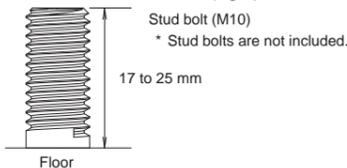

Fig. 5
- Mount the stud bolts (M10) to the mounting holes on the floor of the mount-column adjustable base. The length of the stud bolt from the floor should be 17 to 25 mm. (Fig. 5)